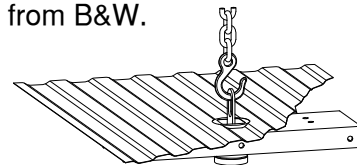

Figure A2
5. **Prepare a lifting device (optional).** The purpose of the device is to safely hold the hitch in position during part of the installation. See Figure A2 for an example. A simple mechanical lifting device is available for purchase from B&W.